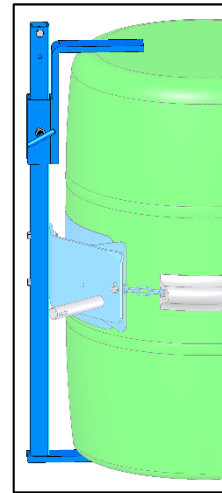

Figure 2.1
- Bracket Assembly Kit 4556-P** is required to handle a RIMLESS plastic drum (figure 2.1), and is also recommended for a fiber drum. The Bracket adjusts for a 31" to 39" (79 to 99 cm) tall drum. You can also handle a rimmed drum with the Bracket installed.